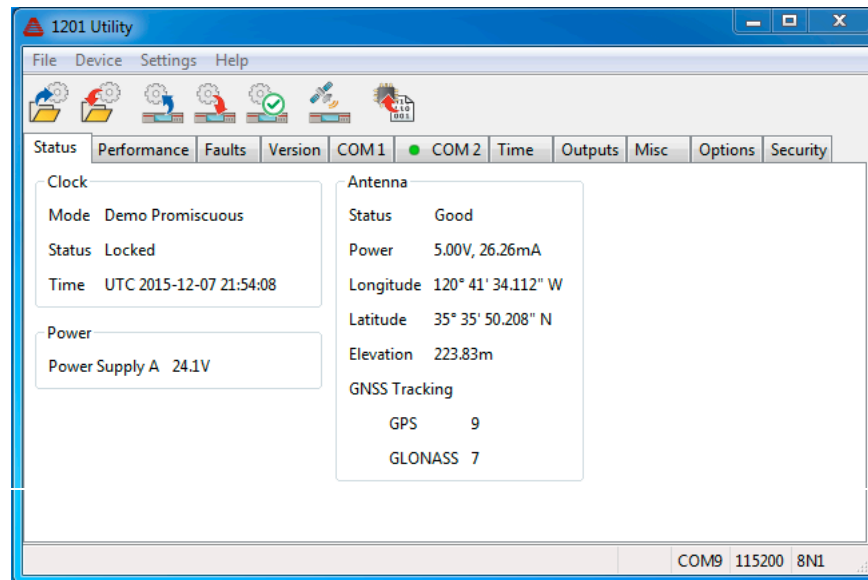

Figure 7.5: Status Screen
After selecting **Device > Read**, or clicking the **Read** icon, the Utility will display the first tab information labeled **Status**. Status is organized in three groups: (1) clock status, (2) power supply status, and (3) antenna status. The definitions from Figure 7.5 below define the values in this menu item.